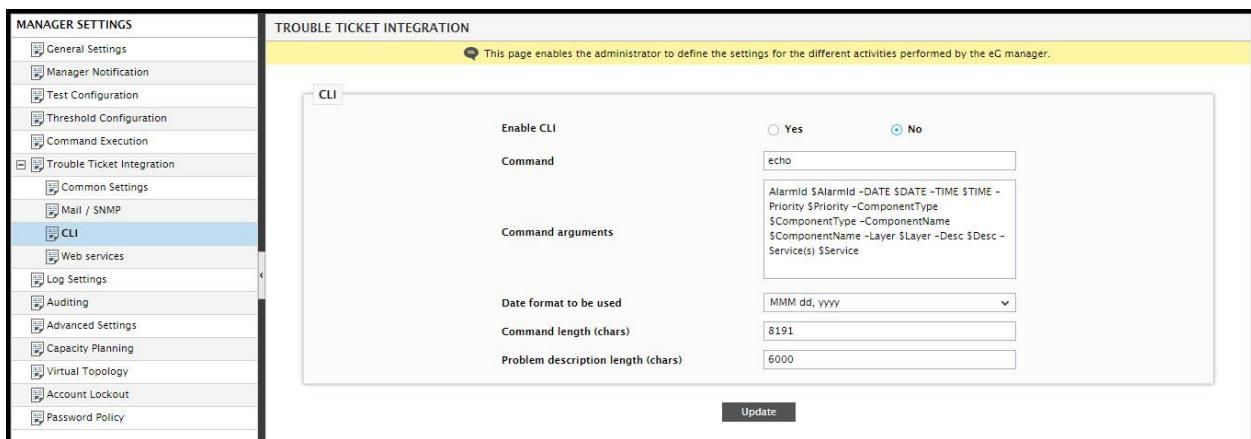

Figure 4.1: eG Manager settings for TT System CLI integration
2. When Figure 4.1 appears, expand the **Trouble Ticket Integration** node in the tree-structure in the left panel of Figure 4.1, and click the **CLI** sub-node.
4. Set the **Enable CLI** parameter in Figure 4.1 to **Yes** to enable this capability.